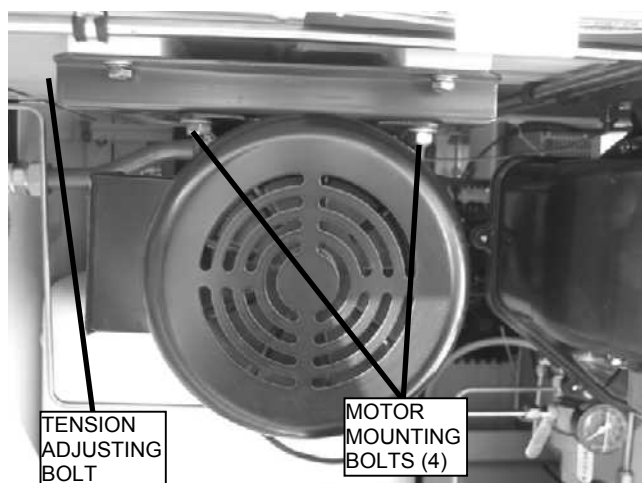

Figure 10. Scroll Compressor Motor Mount.
- Loosen the four (4) motor mounting bolts sufficiently to allow the motor to be moved with the tension adjusting bolt (see Figure 10).
- b. Loosen the four (4) motor mounting bolts sufficiently to allow the motor to be moved with the tension adjusting bolt (see Figure 10).